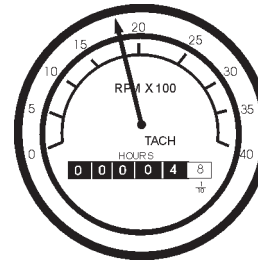

Figure 49. Engine Tachometer
14. The tachometer (Figure 49) will indicate the speed of the engine when the generator is operating. Under normal operating conditions this speed is approximately 1800 RPM's.